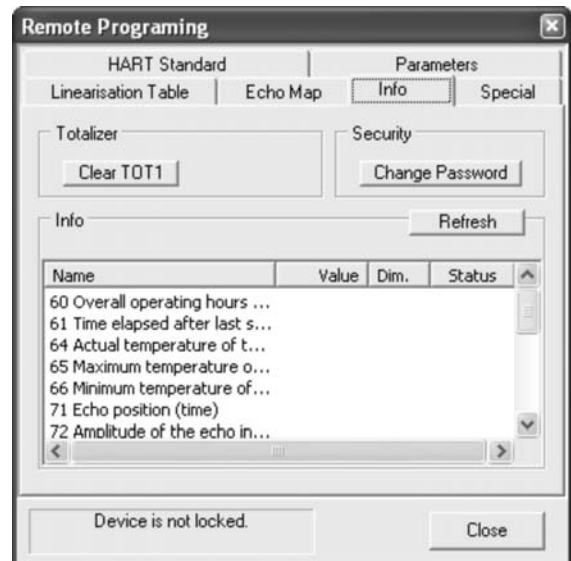

Figure 11. Info Window
- Informational parameters (viewing), reset totalizer TOT1, using Secret Code (Figure 11)
Clicking on the *Info* tab (Figure 11) accesses the informational parameters as well as resetting of Totalizer 1 (P77) and of the Secret Code (P99). For viewing the actual information of the relevant field device, click on the *Refresh* button.